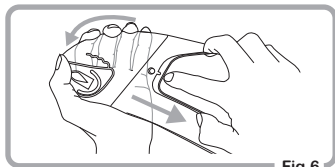

Fig.6
- ④ Peel off the protective film on the Pinlock® Original Insert Lens.
- ① Remove the shield from the helmet.
- ② Remove the Pinlock® Original Insert Lens from the eccentric pins by flexing the shield. (Fig.6)